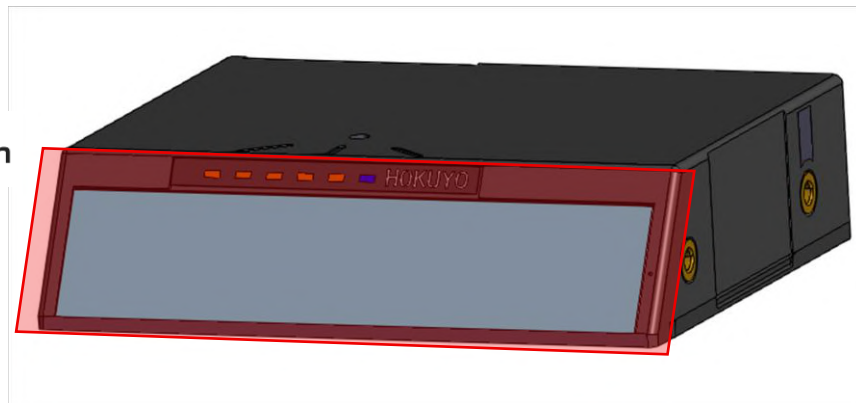

Fig 3-35 Cautions during installation
- When attaching a cover or other accessory to UCT, make sure not to cover the area indicated by the red frame in Figure 3-35. Covering this area may cause false detection.